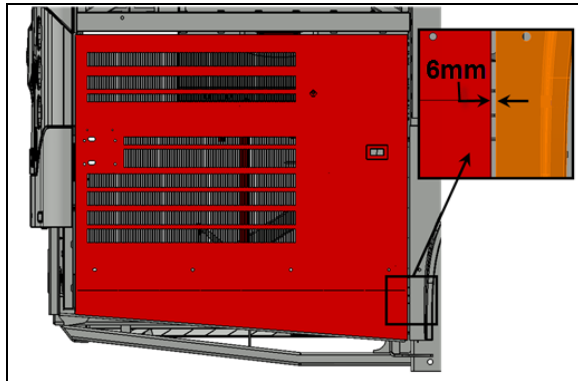

FIGURE 59
7. Check the gap between the door and the adjacent panel at the level of the lower attachment point of the arm on the door. The gap should be 1/4" (6 mm) (FIGURE 59).